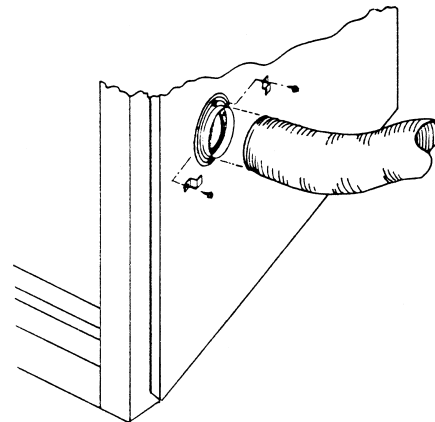

Figure 41
Step 3. With the two remaining sheet metal screws and the two clamp brackets supplied, secure the duct to the air gate assembly as shown in Figure 41.